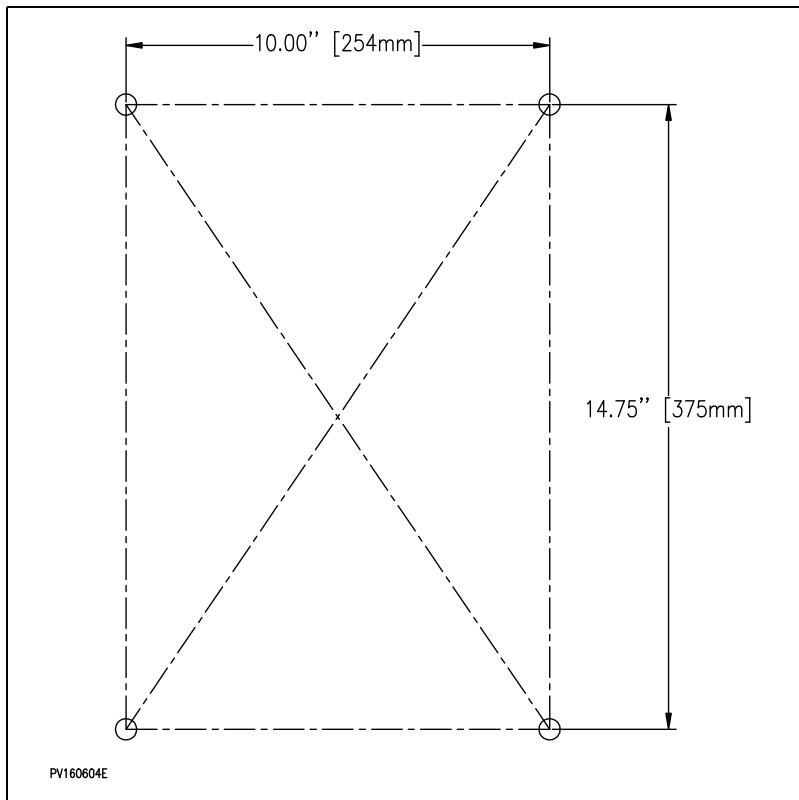
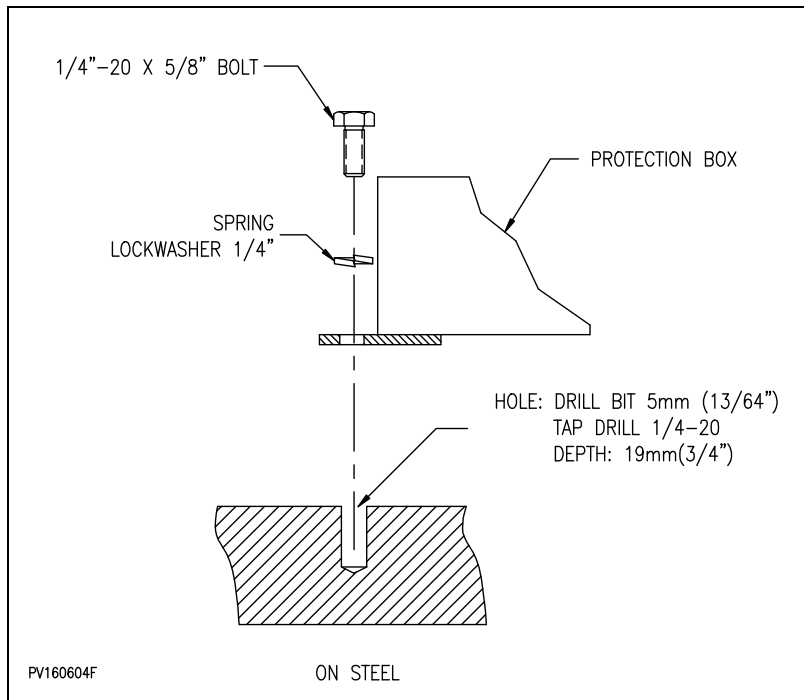
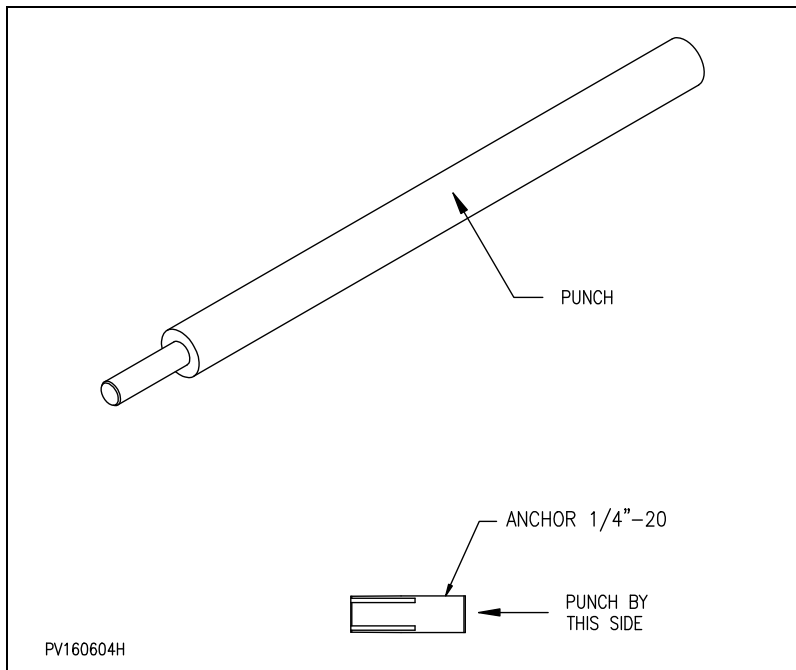

Figure 17 : Mounting holes template
Figure 18 : Fastening the protection box on steel
Figure 20 : Punch for concrete anchors
1. Drill (refer to *Figure 17 : "Mounting holes template"*) and thread into the structure (refer to *Figure 18 : "Fastening the protection box on steel"*).
1. Drill into the concrete wall (refer to *Figure 17 : "Mounting holes template"*) and set the anchor bolts with the special punch (refer to *Figure 20 : "Punch for concrete anchors"*).